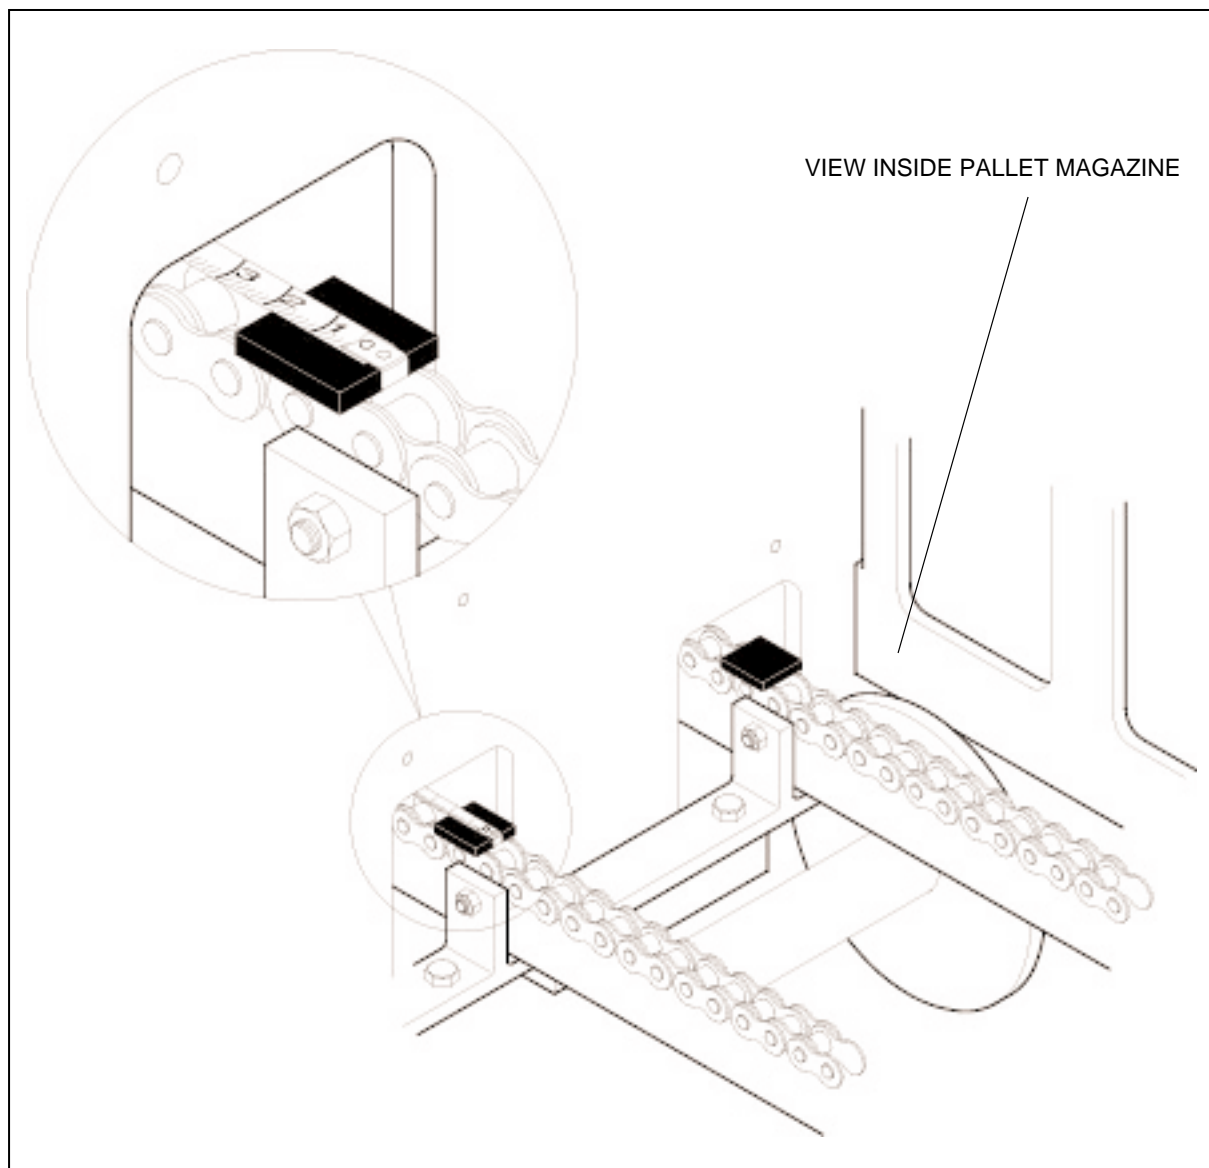

Figure 4.27 MEASURING DISTANCE FROM REAR OF PALLET MAGAZINE TO A CHAIN LUG
- 4.2.18 Measure and record the distance from the rear of the pallet magazine to the front of a chain lug on the pallet moving chain (see figure 4.27). Refer to section 6, "*Timing the pallet feeder*".